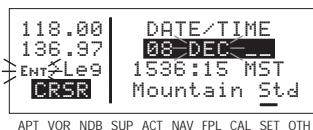

Figure 3-160
4. Move the flashing part of the cursor to the month field (middle three dashes) with the right outer knob, and select the proper month (figure 3-160).